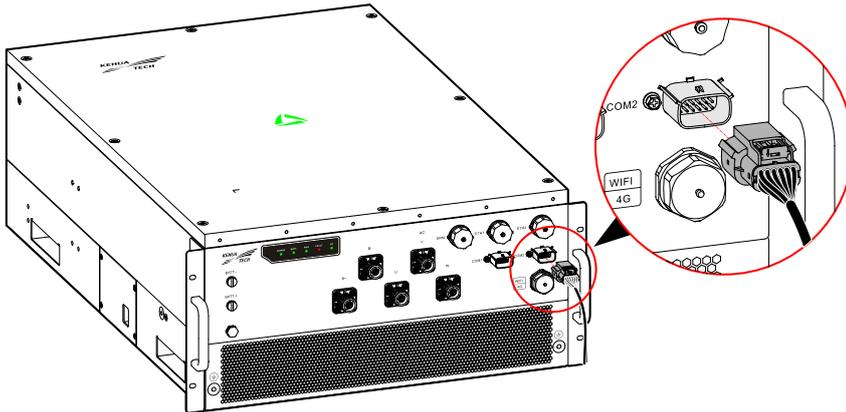
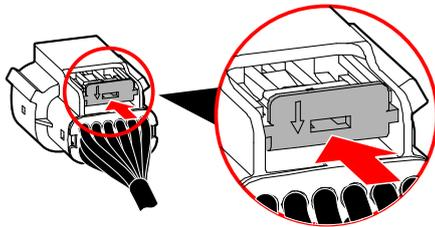

Figure3-26 COM connection diagram
Figure3-27 Buckle position
Step 2 Connect the crimped connector to corresponding port of PCS (as shown Figure3-26), and press the buckle (as shown Figure3-27) to avoid loosening.